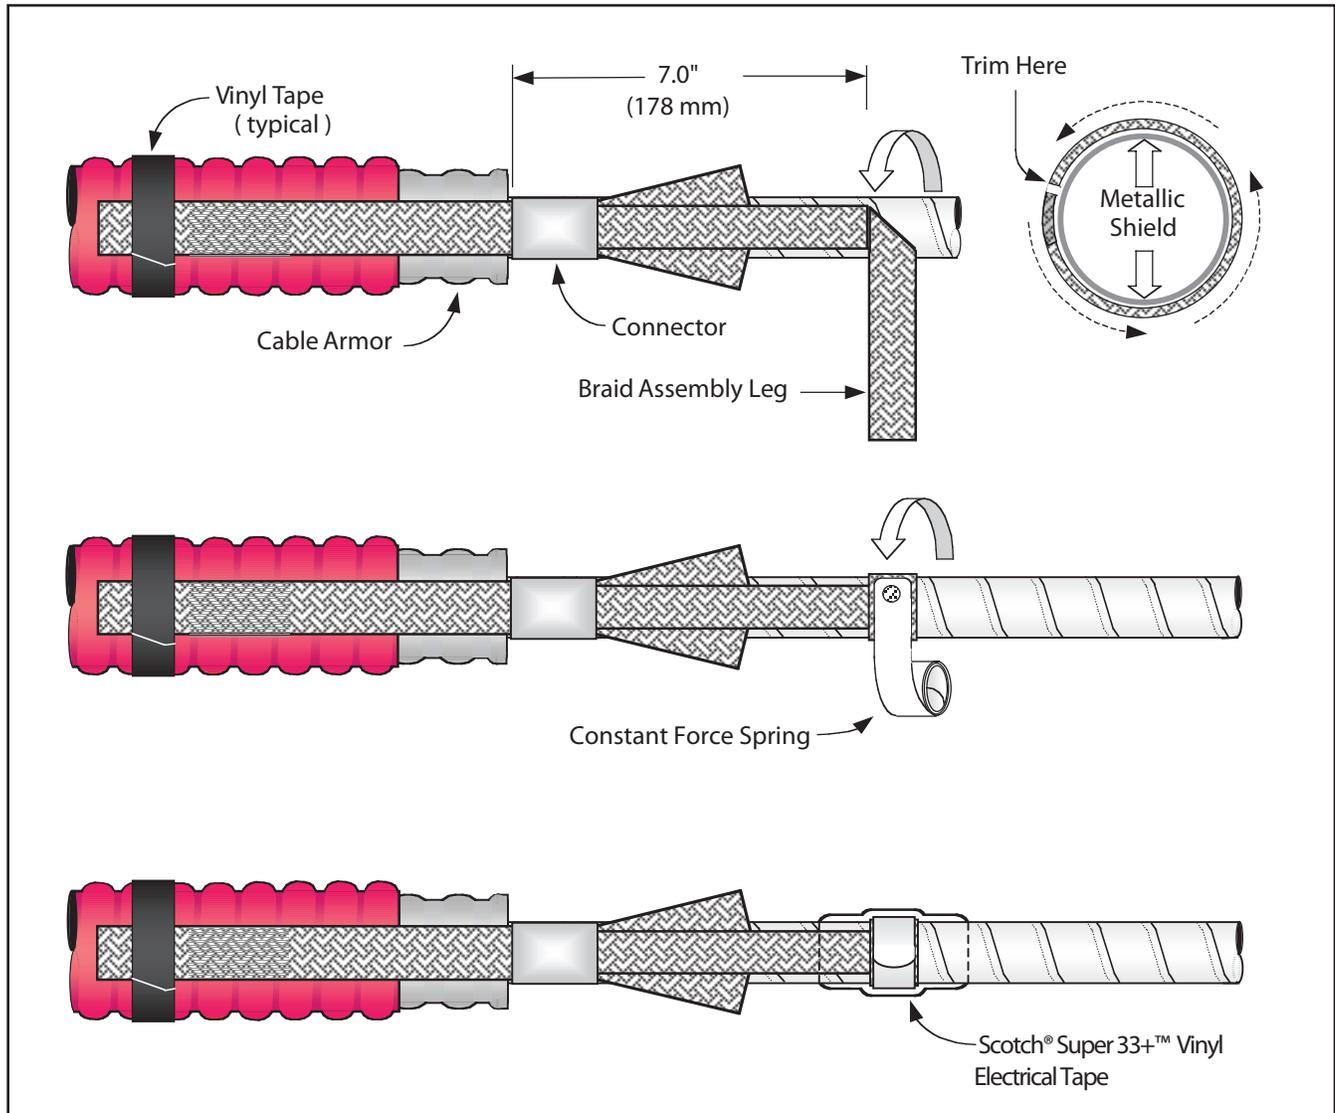

Figure 2
2.1 Position ground braid assembly over cable with assembly connector aligned to edge of armor (*Figure 2*).
**Hint:** Use temporary vinyl tape wraps as needed to assist in holding braid assembly to cable (*Figure 2*).
(a.) Short (Center) Braid Tail – Position ground braid assembly as shown (*Figure 2*). Wrap short, center ground braid tail around metallic shield of first cable core. Trim excess braid length to prevent overlap (*Figure 2*). Secure ground braid to cable metallic shield using small constant-force spring (*Figure 2*). Spring and braid leg should be wrapped in the same direction. Cinch (twist with hand) constant-force springs to tighten.
2.3 Apply two highly-stretched half-lapped layers of Scotch® Super 33+™ Vinyl Electrical Tape over constant-force springs (*Figure 2*).